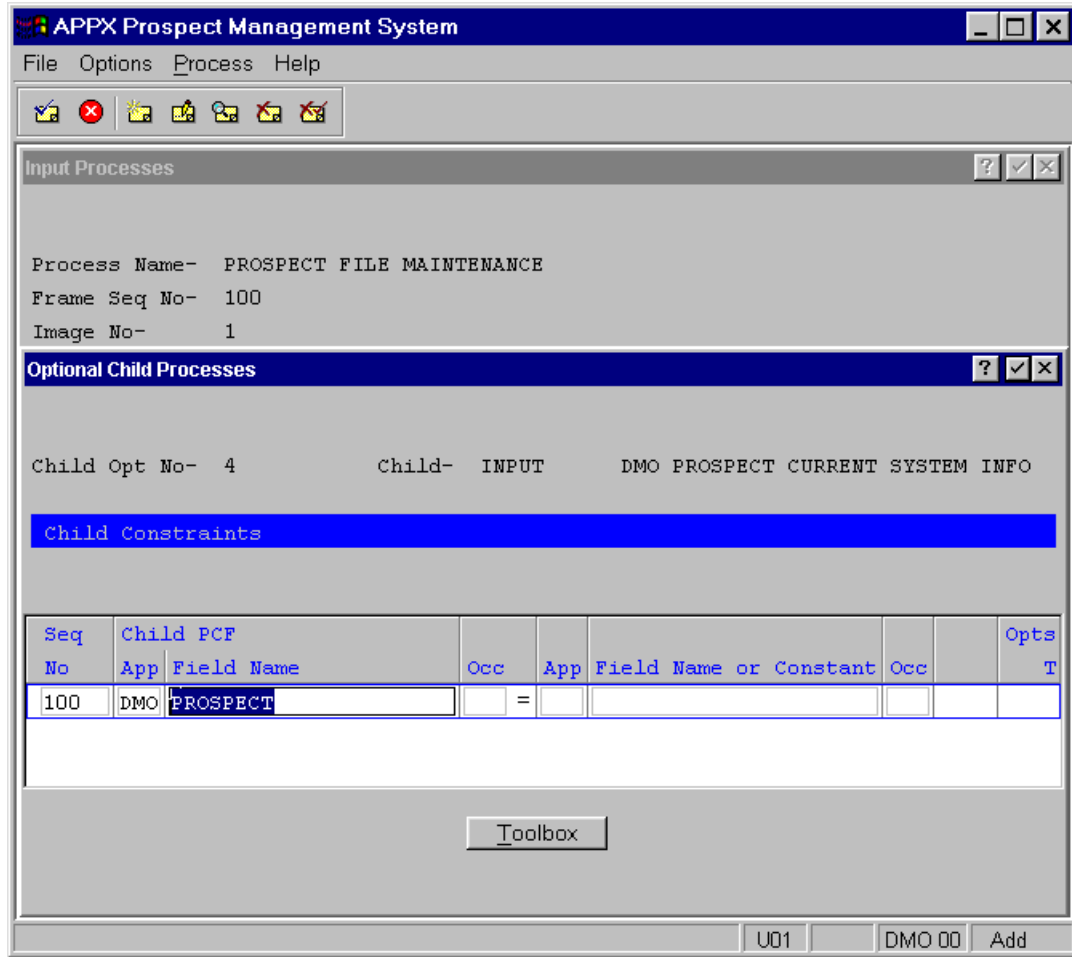

Figure E3.20 – Optional Process Child Constraints
- Press **ENTER** to continue and you are presented with a **Child Constraints** screen (*Figure E3.20*).